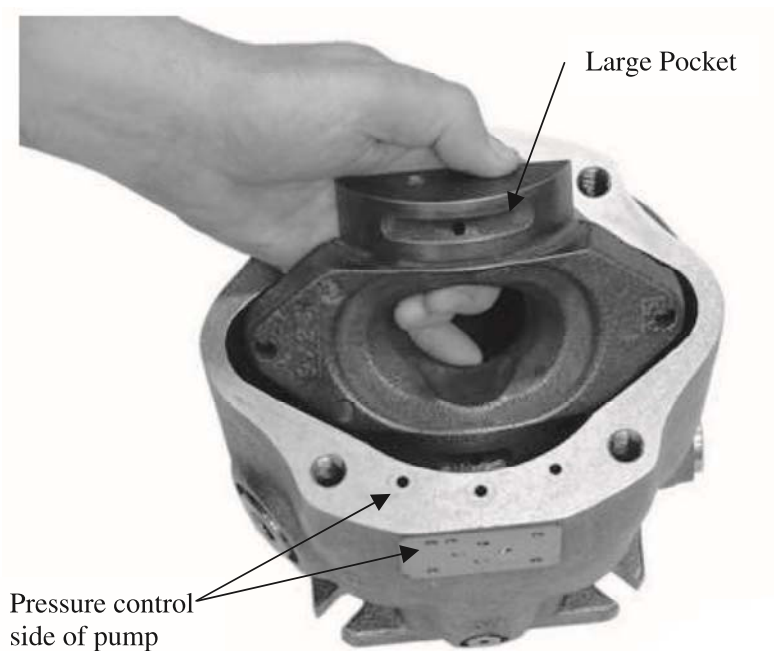

Figure 2
9. Remove cam from housing. See Figure 2
12. Place thin film of clean oil on cam bearing surfaces. Install cam in housing. For 045, the cam must be tilted to permit entry into the housing. (Figure 2)